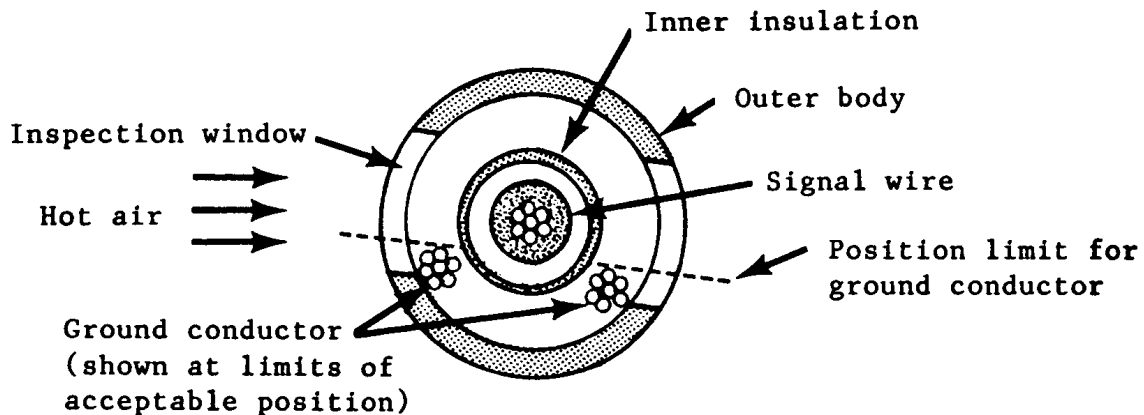

Figure 6-5. Position of Ground Conductor in Contact (Cross Section View)
- The folded ground conductor may be visible through either one of the inspection windows, and should be positioned against the downward facing side of the contact, as shown in Figure 6-5.